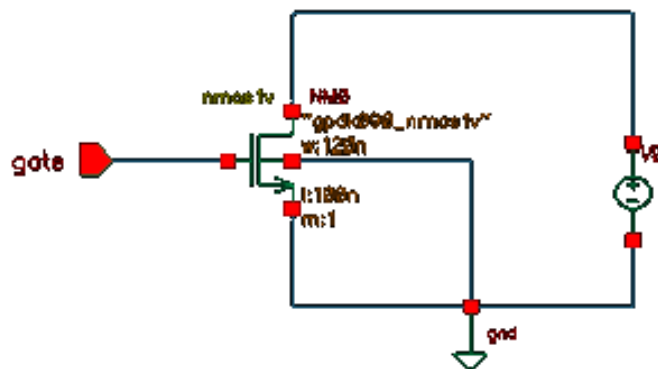

Figure Lab1-8 : NMOS Biasing Circuit
- (b) Create a new schematic as shown in Figure Lab1-8.